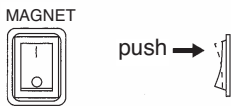

Fig. 15
(1) Start
- Magnet ON (Fig.15)